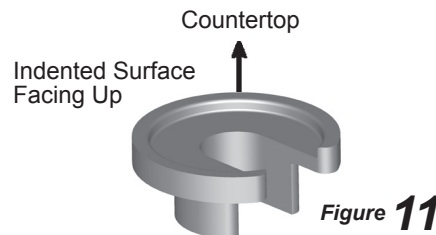

Figure 11
4. Slide split washer (Fig. 11) with indented surface facing up (used to center the faucet in the mounting hole), between bottom of countertop and faucet stem nut.